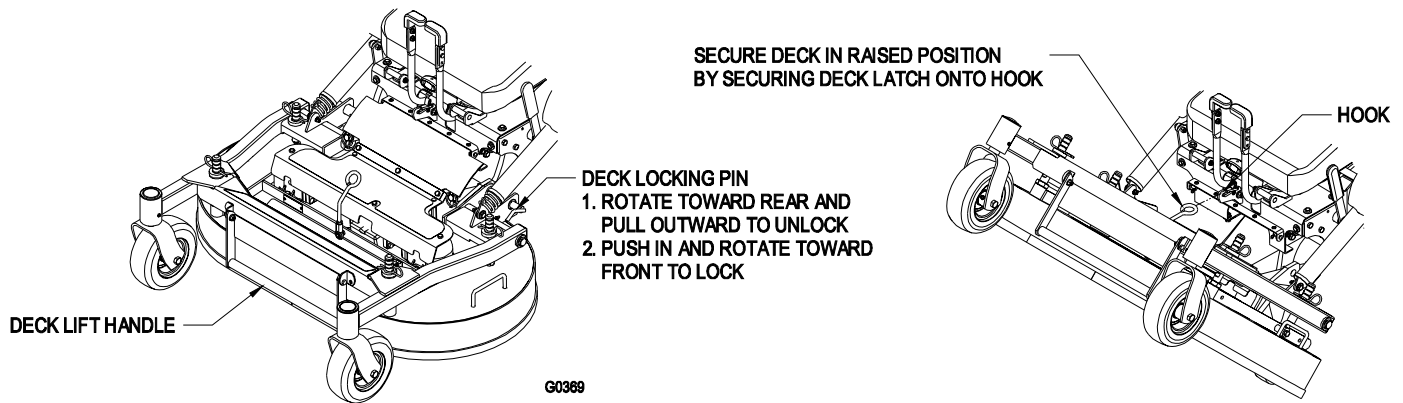

FIGURE 5
- b) Release the deck locking pins on each side. See Figure 5.
- c) Using deck lift handle, lift deck up and latch in “up” position (latch is located at front center of seat). See Figure 5.
- b) Push deck locking pins inward and rotate forward to securely lock deck in lowered position. See Figure 5.